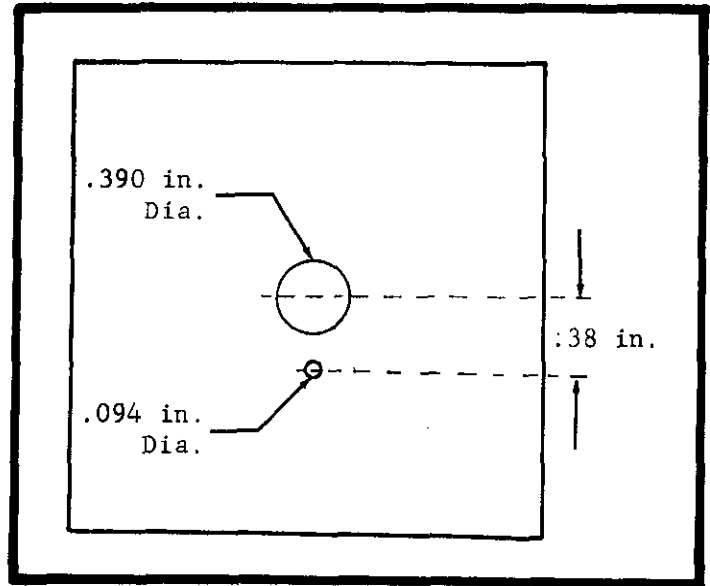
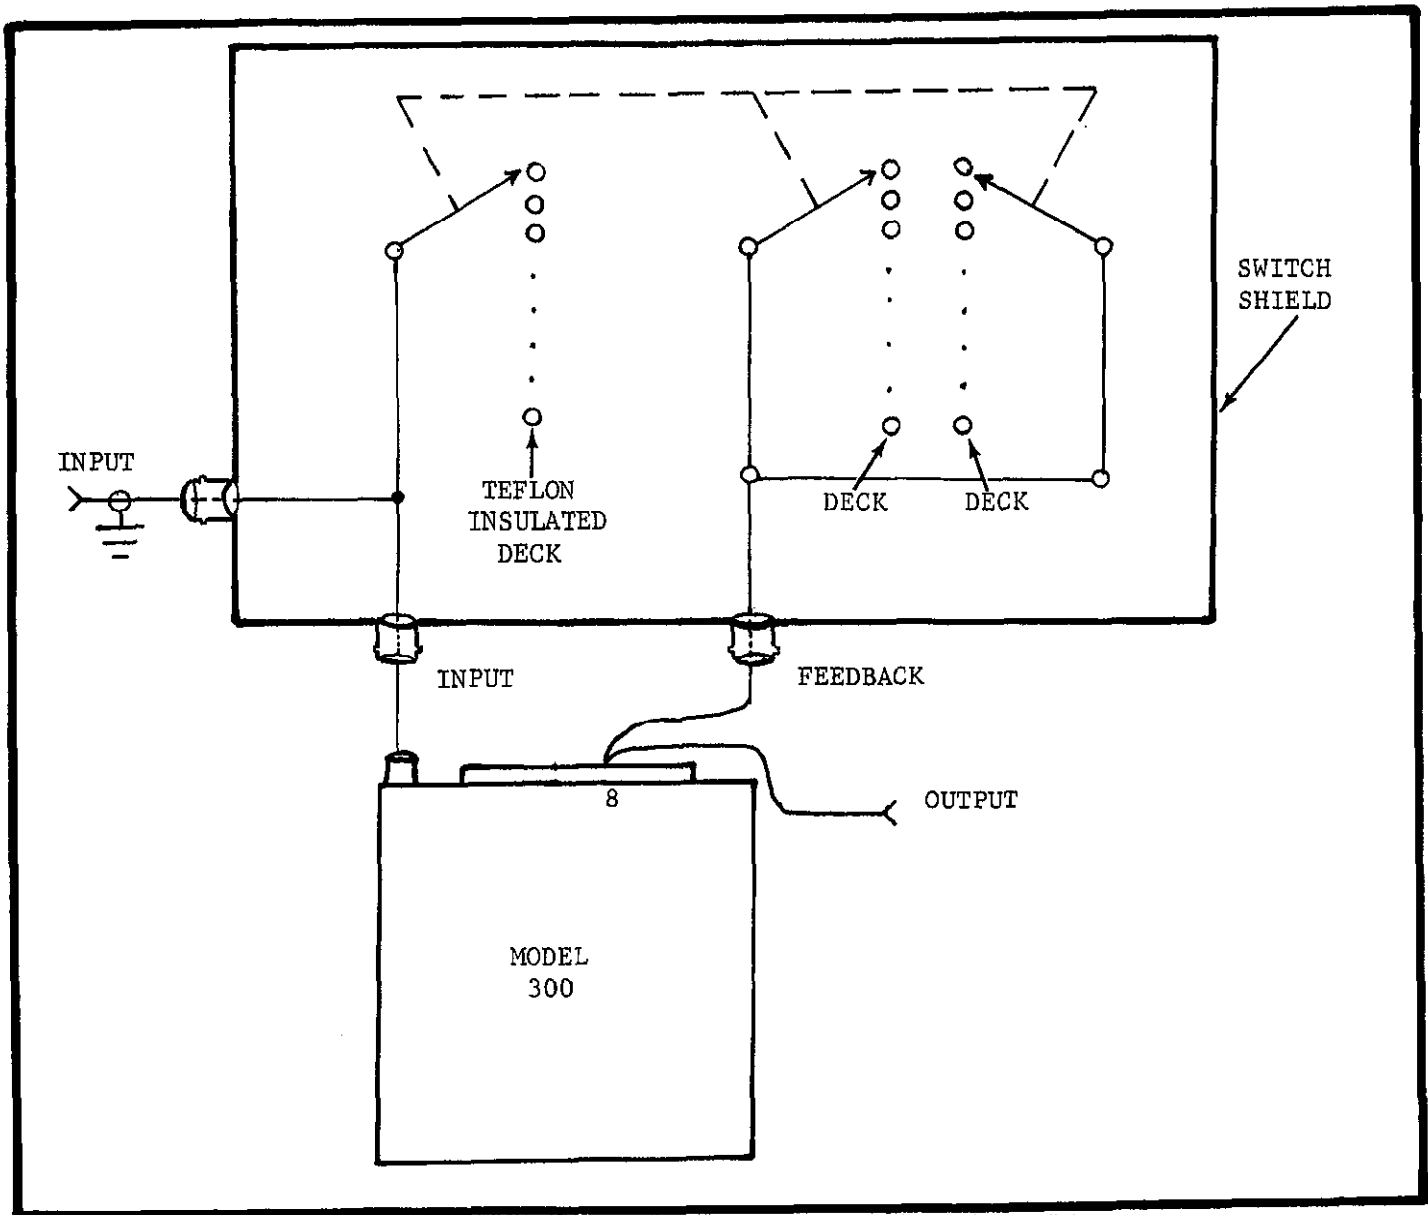

FIGURE 29. Required Dimensions of Model 3011 Front Panel (used to physically stabilize the Switch).
FIGURE 30. Model 3011 Installation and Hook-up Diagram.
2. The panel (9) should be less than 1/4 inch thick and should have holes drilled into it for the bushing and lug (Figure 29). The panel, in conjunction with the bushing and lug, physically stabilizes the Model 3011 Switch.
3. Insert the short lug (6) into the desired hole in the front plate (12) of the Switch. This adjusts switch stopping. Insert the larger lug over the bushing against the first lug. This second lug should face opposite the first lug.
4. Insert the Switch into its shield. Make sure the bushing (5) and the larger lug (6) are fitted into the proper holes on the front panel of the shield.
5. Insert the bushing and lug into the panel (9).
6. Secure the Switch and panel with the nut and lockwasher (10).
7. Attach the knob (11) to the Switch.
c. Installation and Hook-up for Switching Feedback (Figure 30).
- b. Connect a second wire from the FEEDBACK Terminal to the wiper on one of the rear component mounting decks (Figure 30).